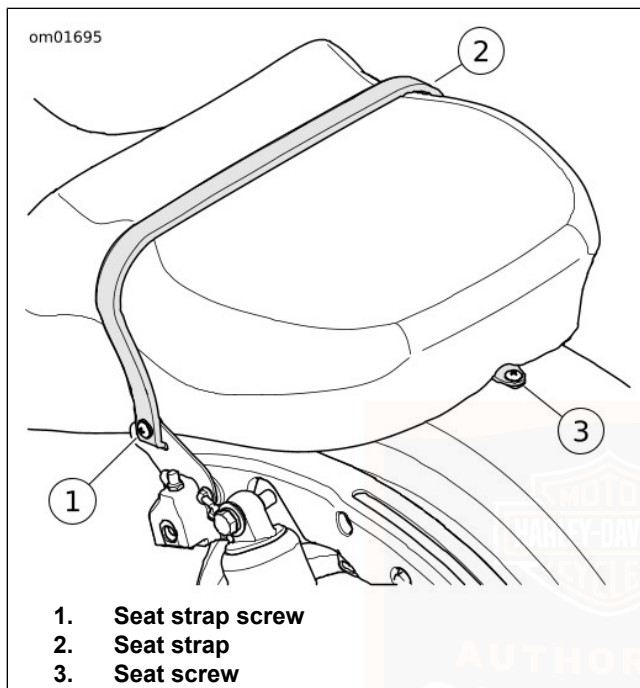

Figure 105. Seat Strap Screw
3. See Figure 105. Remove screw to release seat strap from bracket.
2. See Figure 105. Secure seat bracket to rear fender with screw. Tighten.
5. See Figure 105. Insert strap in slot on seat strap bracket.